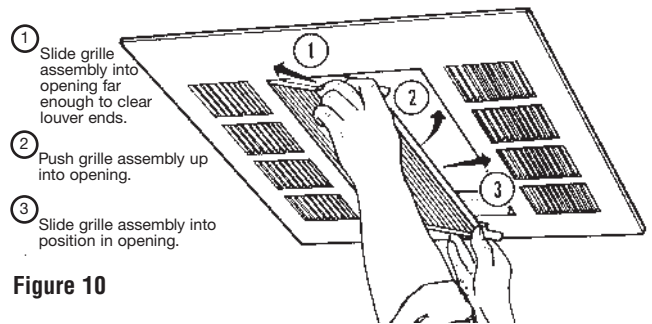

Figure 10
- While holding the assembly together with both hands, fit one side of assembly into the opening of the enclosure, and slide this side inward while fitting the opposite side into the enclosure. (See Figure 10.) Slide the assembly into position so that the bottom portion of each guide locks into the opening.